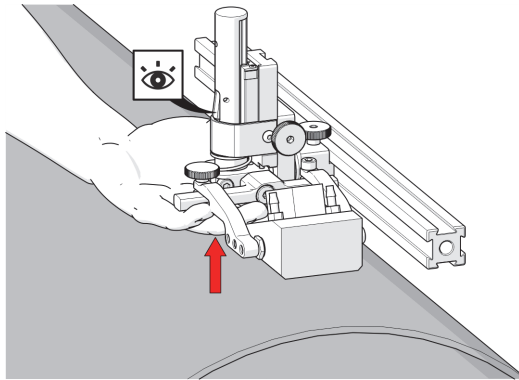
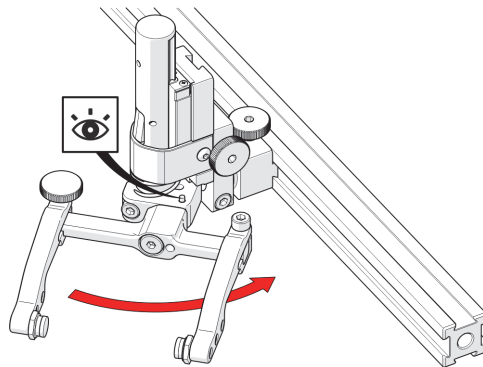

Figure 2-56 Latch probe holder
Figure 2-62 Stop post locates 90°
1. Ensure that the probe holder is latched in the upper position. Lift the probe holder until the latch is fully exposed and snaps out to lock (see Figure 2-56 on page 95).
1. Ensure that the probe holder is latched in the upper position (see Figure 2-56 on page 95).
4. To return the transverse adjustment to neutral (90°), the probe holder must be in the latched, upper position (see Figure 2-56 on page 95). Rotate the yoke until the stop post contacts the base of the probe holder, and then tighten the transverse adjustment screw (see Figure 2-62 on page 98).
1. Ensure that the probe holder is in the latched, upper position (see Figure 2-56 on page 95).